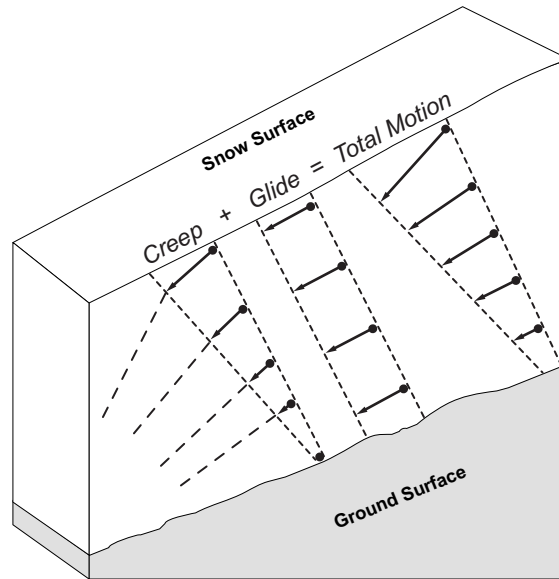

Figure 1-2. Creep and Glide.
- Creep and glide. Creep is the internal deformation of the snowpack; glide is slippage of the snow layer relative to the ground as depicted in Figure 1-2. Evidence of these two properties on the snowpack includes a ripple effect at the bottom of a slope, indicating that the snow is gaining equilibrium and strength through this settlement process.